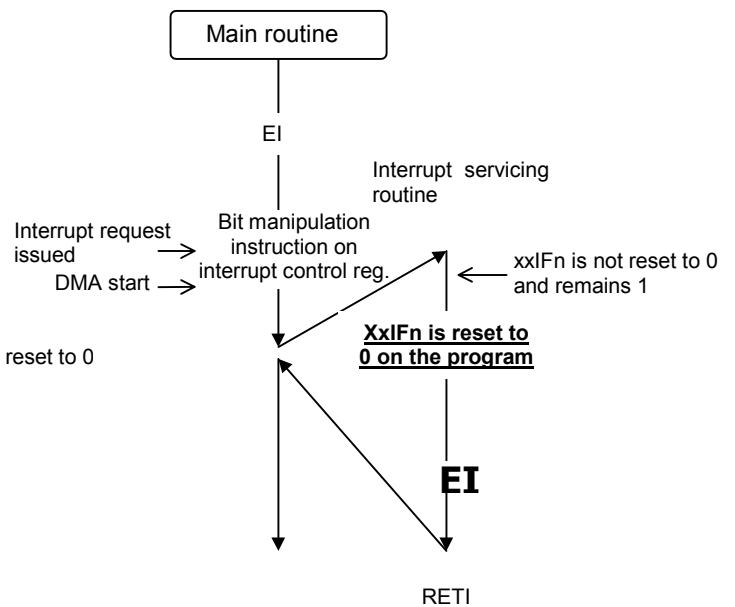

Figure 3-4. Workaround (2)
- (2) When interrupt servicing begins, interrupts are disabled by hardware (the DI state), so clear the interrupt request flag in every interrupt processing routine before executing the EI instruction. (See Figure 3-4.)